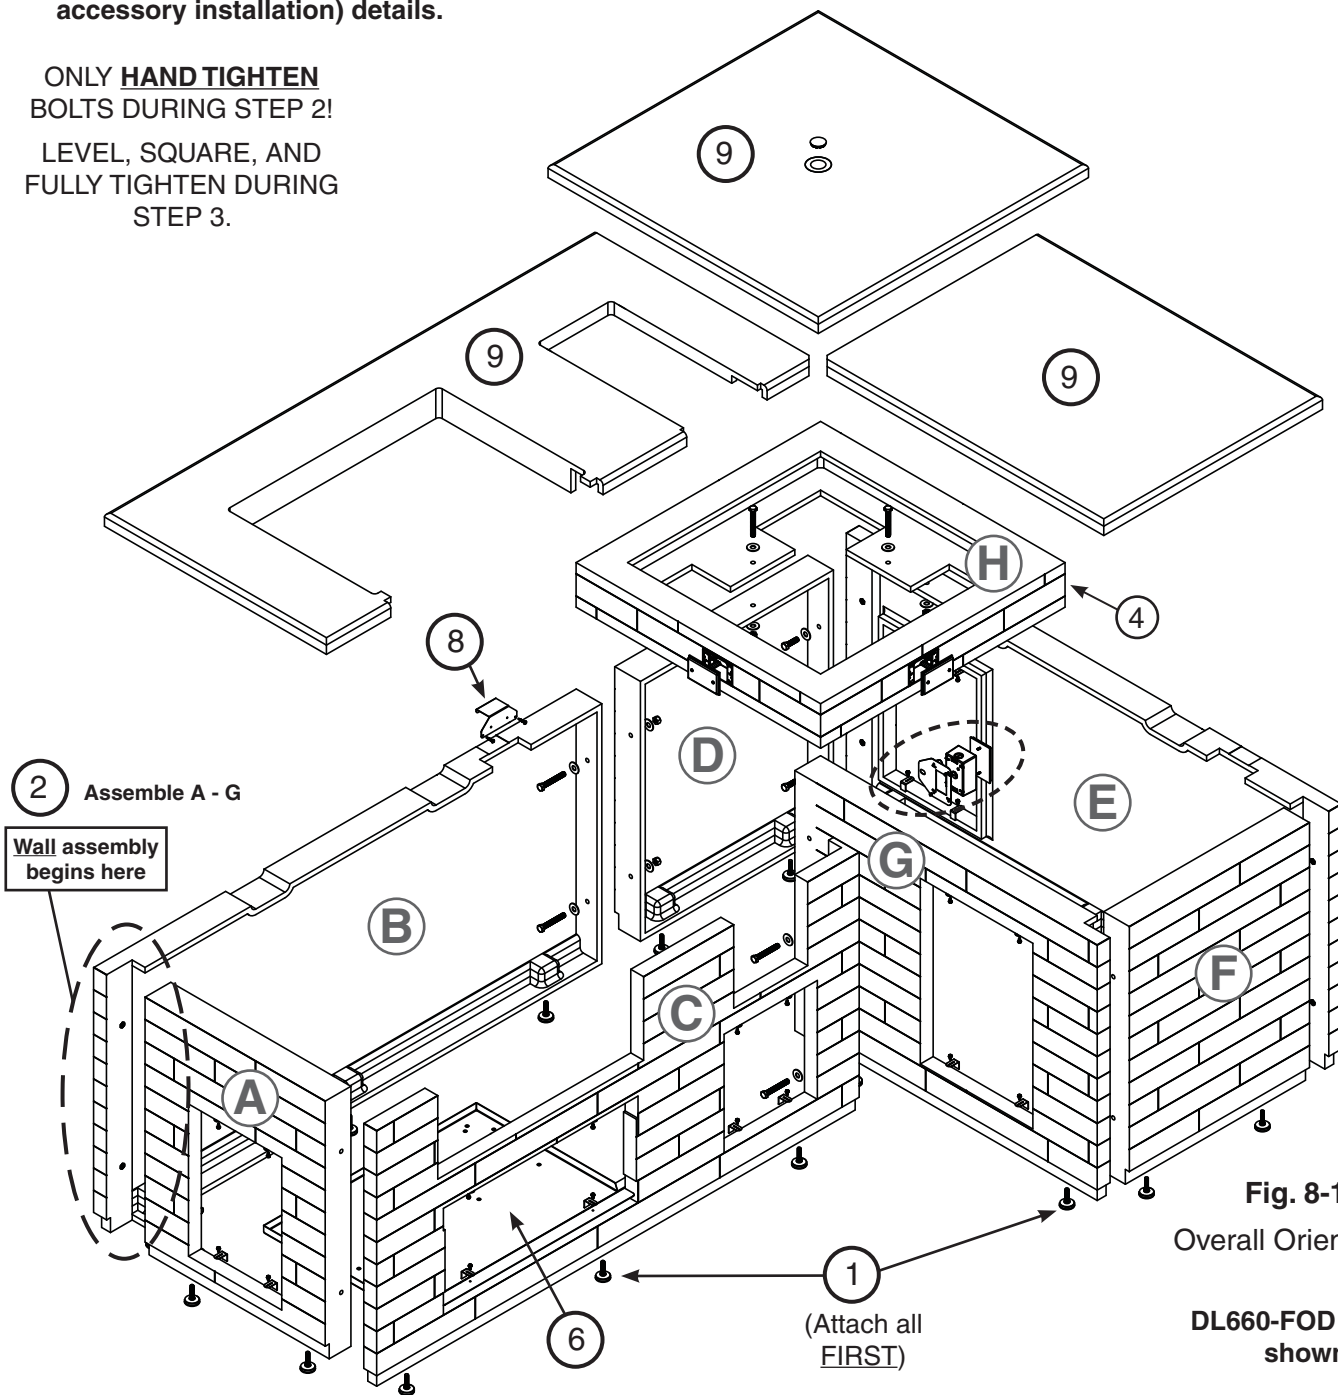

Fig. 8-1
- Fig. 8-1 provides an overall orientation and bolt assembly detail for the island with pantry.